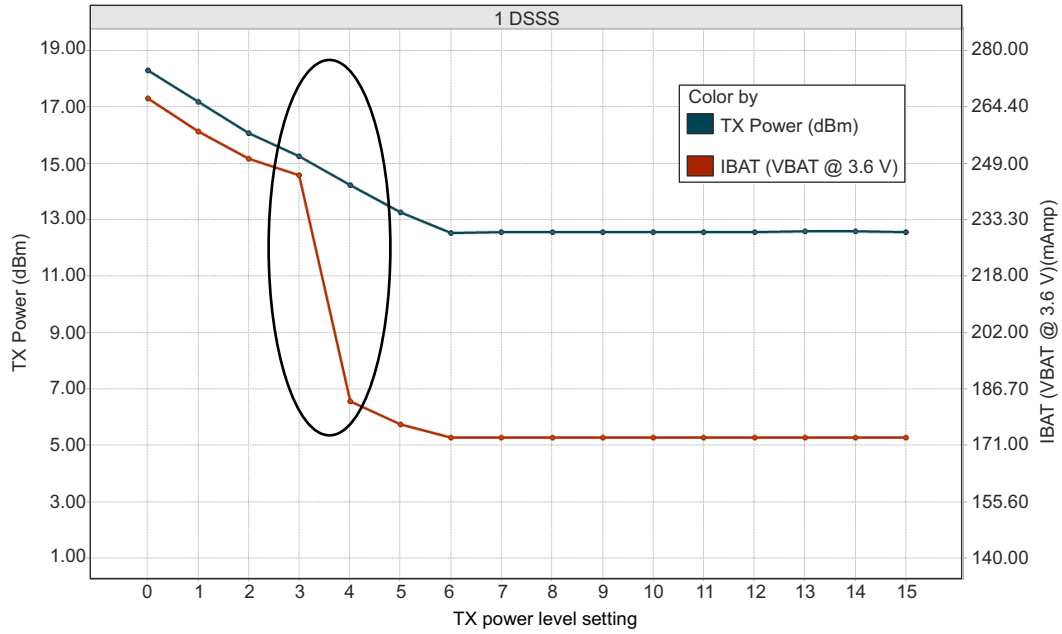
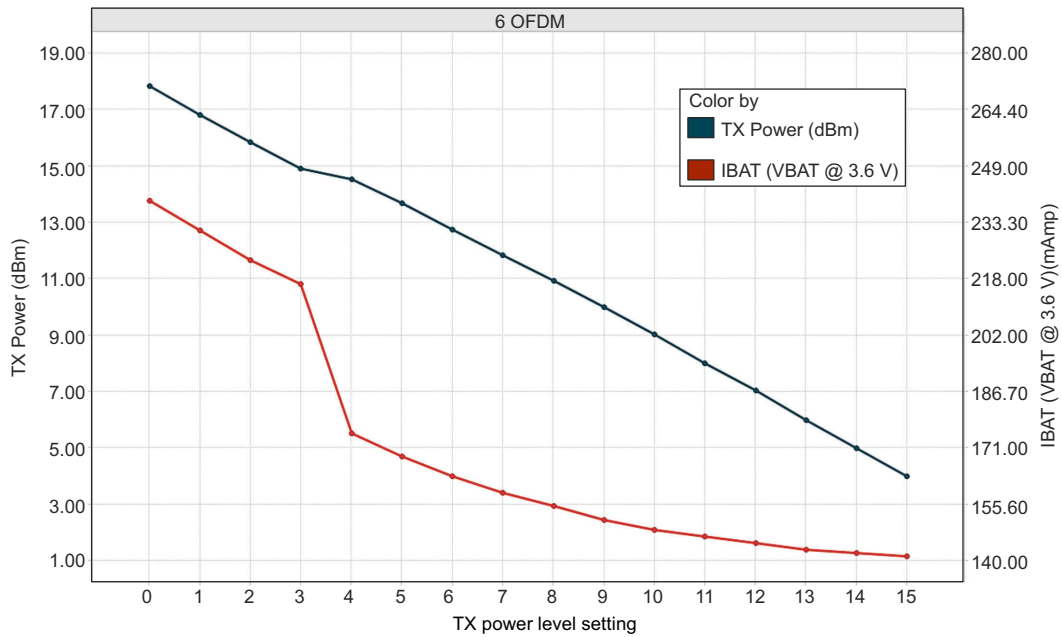
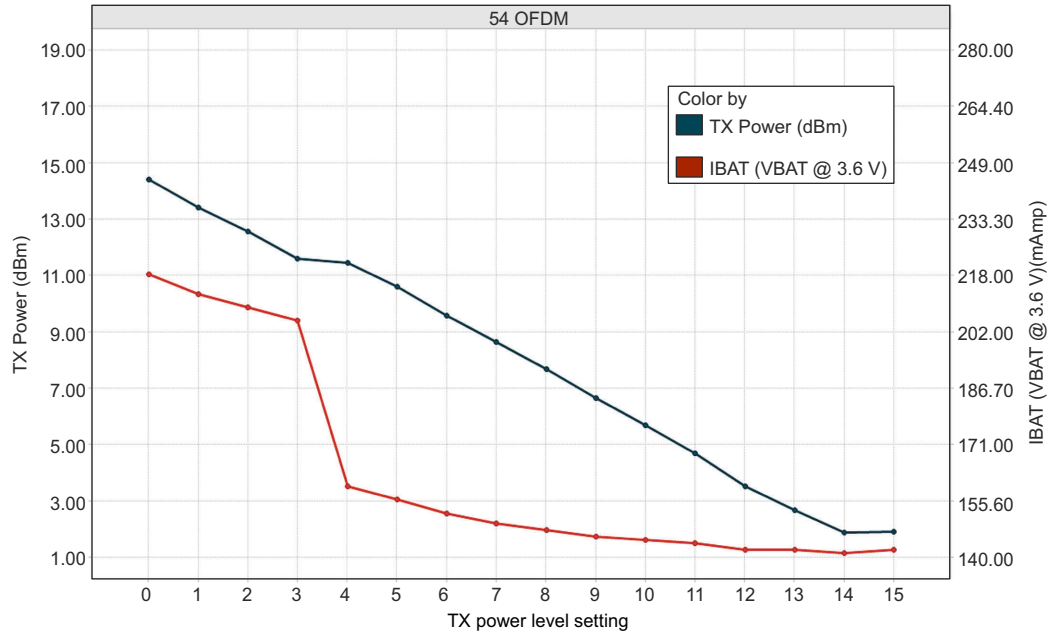

图 8-1. TX Power and IBAT vs TX Power Level Settings (1 DSSS)
图 8-2. TX Power and IBAT vs TX Power Level Settings (6 OFDM)
图 8-3. TX Power and IBAT vs TX Power Level Settings (54 OFDM)
- (1) TX power level = 0 implies maximum power (see 图 8-1, 图 8-2, and 图 8-3). TX power level = 4 implies output power backed off approximately 4 dB.
- (2) The CC3130 system is a constant power-source system. The active current numbers scale based on the  $V_{BAT}$  voltage supplied.
- (3) DTIM = 1
- (4) The complete calibration can take up to 17 mJ of energy from the battery over a time of 24 ms. In default mode, calibration is performed sparingly, and typically occurs when re-enabling the NWP and when the temperature has changed by more than  $20^\circ\text{C}$ . There are two additional calibration modes that may be used to reduced or completely eliminate the calibration event. For further details, see CC3x20, CC3x35 SimpleLink™ Wi-Fi® and Internet of Things Network Processor Programmer's Guide.
- (5) The RX current is measured with a 1-Mbps throughput rate.
图 8-1, 图 8-2, and 图 8-3 show TX power and IBAT versus TX power level settings for the CC3130 device at modulations of 1 DSSS, 6 OFDM, and 54 OFDM, respectively.
In 图 8-1, the area enclosed in the circle represents a significant reduction in current during transition from TX power level 3 to level 4. In the case of lower range requirements (14-dBm output power), TI recommends using TX power level 4 to reduce the current.